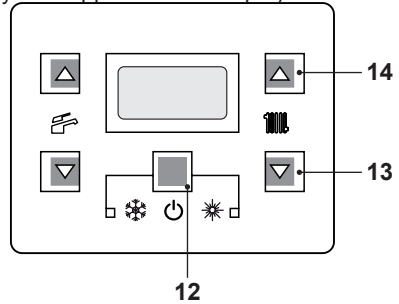

Fig. 2.5
- Press the key 12 for 2 seconds until  symbol appear on the display Fig. 2.5.
The output temperature of C.H. water can be adjusted by pressing keys 13 (reduce) and 14 (increase) (Fig. 2.5) from a minimum of about 25°C to a maximum of about 85°C. Press one of the two keys once to display the "set" value. Press again to access the modification.
However, if the ambient temperature is not comfortable, the flow temperature of the heating system can be adjusted by  $\pm 15^\circ\text{C}$  by pressing on keys 13 (reduce) and 14 (increase) (Fig. 2.5).